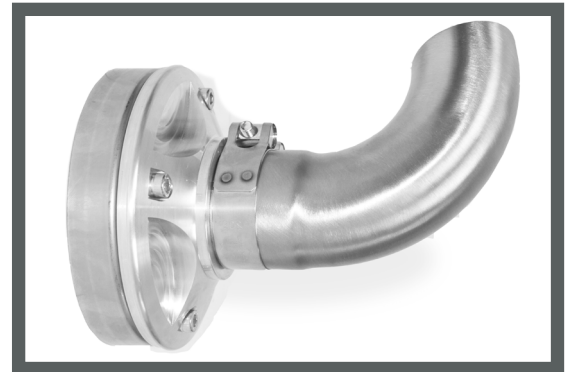

Figure 1
2. Position the **HMF Slip On** so the **Mounting Brackets** line up with the **Rear-Most-Sub-Frame-Bolt-Holes**, and the **Inlet** lines up with the **Head Pipe**. (See Fig. 1)
4. Using a spring puller or a long piece of electrical wire (recommended), install the (2) **Supplied Springs** at the **Inlet-to-Head-Pipe-Joint**.